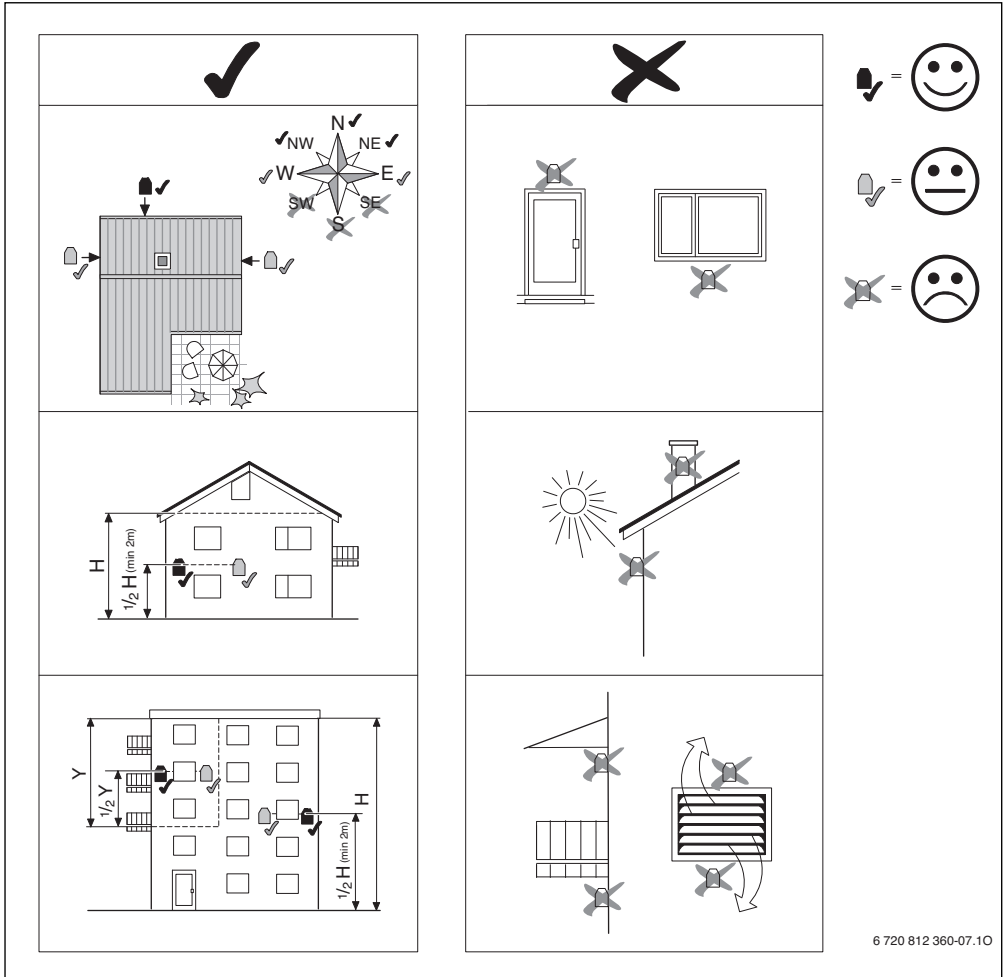

Fig. 14 Installation location for the outside temperature sensor (for weather-compensated control with or without room temperature influence)
- ▶ Observe the points represented in Fig. 14 when selecting the correct installation location of the outside temperature sensor.